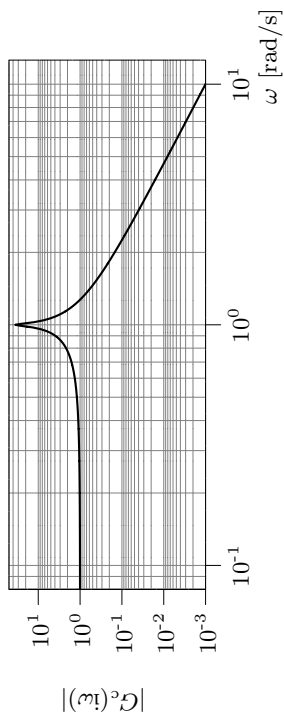

Figure 6.8a
6.8 A system  $G^0(s)$  is controlled using a regulator  $F(s)$ . In Figure 6.8a the amplitude part the Bode plot of the nominal closed loop system,